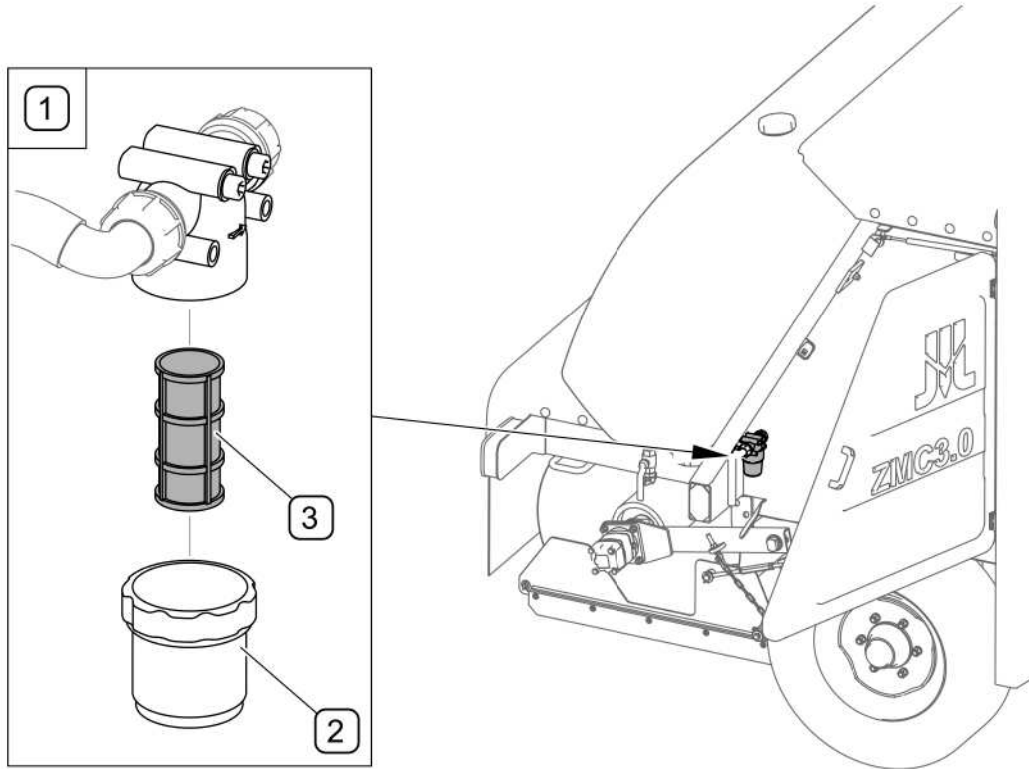

FIG. 5.20 Water filter
(1) - water filter; (2) - housing; (3) - mesh cartridge
In the sprinkler system there is a filter (FIG. 5.20) which catches mechanical contaminants. Open the rear right-hand shield in order to gain access to the water filter. In order to clean water filter, unscrew housing (2) and take out mesh cartridge (3) and wash it with water under pressure or clean with compressed air. Install cartridge, tighten housing elements and check tightness of connection.